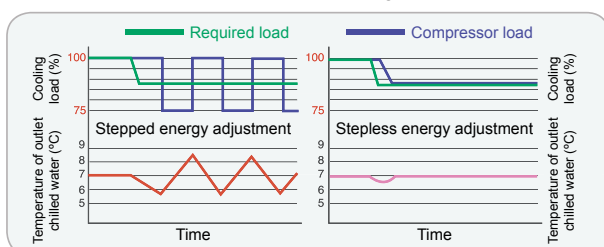

Figure 3
- The temperature of outlet water is stable. The output ability meets the workload demand of the construction system. The units can regulate the output based on the actual workload and maintains high efficiency when running at partial workload. In addition, the accurate adjustment of the energy and water temperature brings more comfortable experience to customers. (See figure 3)